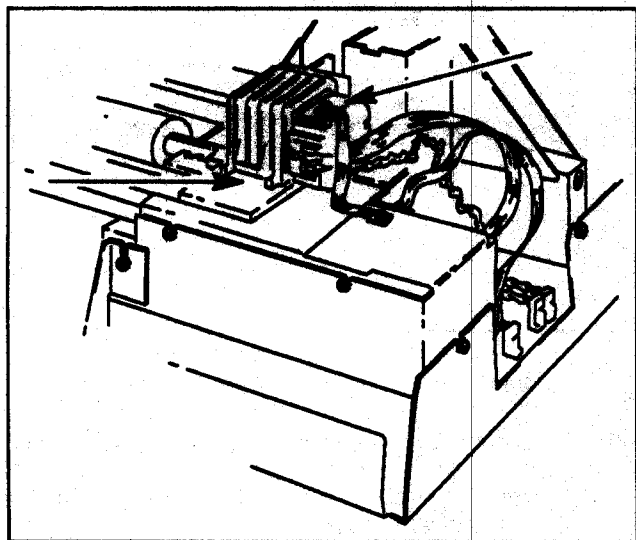

Figure 6-17. Drive Shaft Motor Clamp
- e. Remove the  $\frac{1}{2}$  in. nut securing the ground strap and remove the strap from the motor lug. See Figure 6-17.
- f. Using a common screwdriver, press in and lift at the lower front edge of the motor clamp. See Figure 6-17.